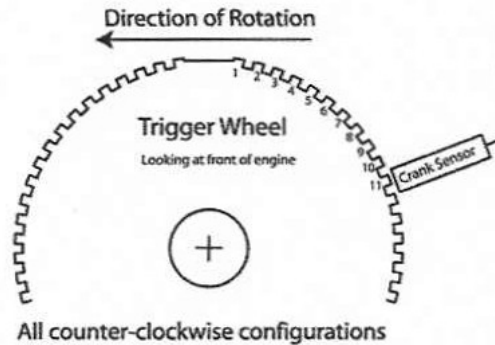

Figure 11: Crank Shaft Trigger Wheel Positioning
- g. Loosen the CSTW and rotate it until the alignment pin (remember the dowel/pop rivet assembly which is still in the pick-up holder) lines up with the hole in the CSTW. The alignment pin can be used to lock the CSTW position. **This should place the trailing edge of the 11th tooth past the two missing teeth** directly under the center of where the magnetic pick-up will go. Reference Figure 11 for sensor alignment and positioning.